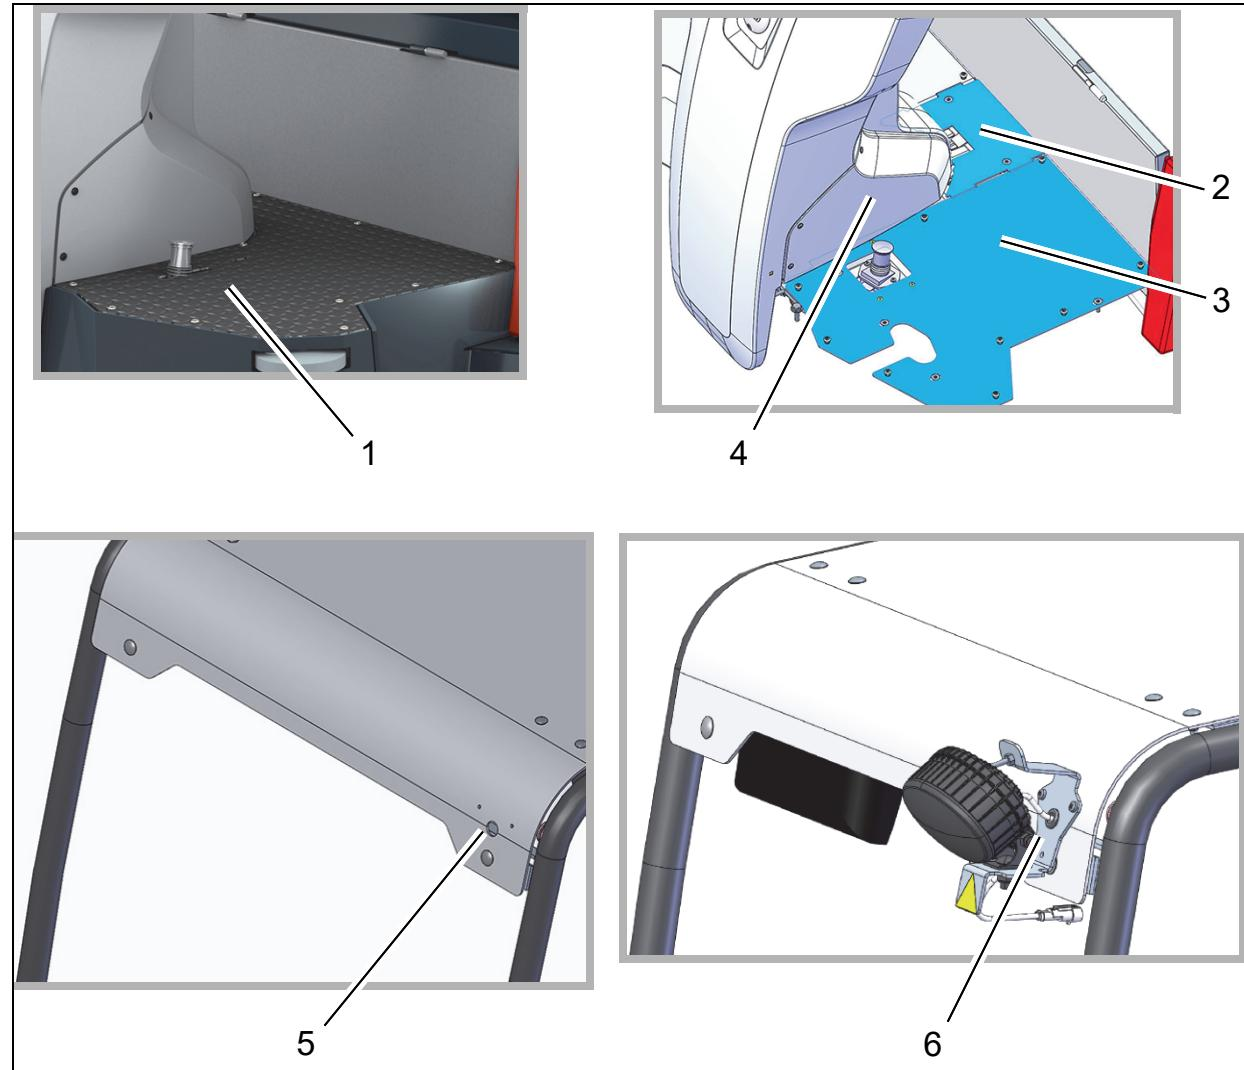

Fig. 2
1. Remove the floor mat (Fig. 2/1).
2. Remove the middle floor plate (Fig. 2/2).
3. Remove the left floor plate (Fig. 2/3).
4. Remove the engine cover (Fig. 2/4).
1. Feed the cable of the pre-assembled BlueSpot through the hole on the left side of the overhead guard (Fig. 2/5).
2. Fix the pre-assembled BlueSpot to the overhead guard using the two M5x12 flanged button head bolts (self-tapping) (Fig. 2/6).